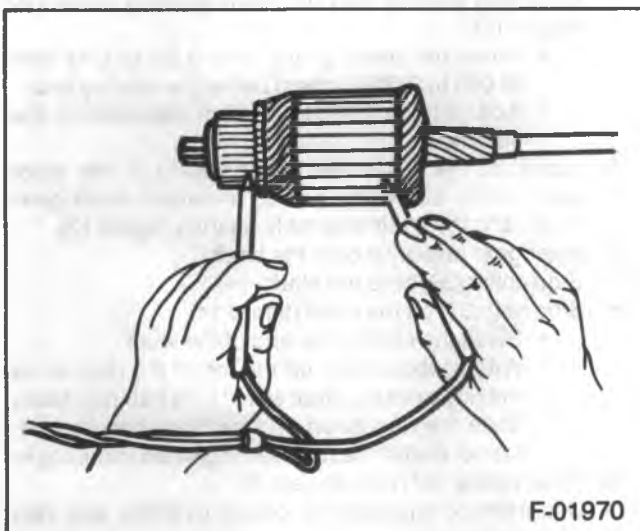

Figure 8—Testing the Armature for Grounds
5. Armature for grounds by using a test lamp (figure 8).